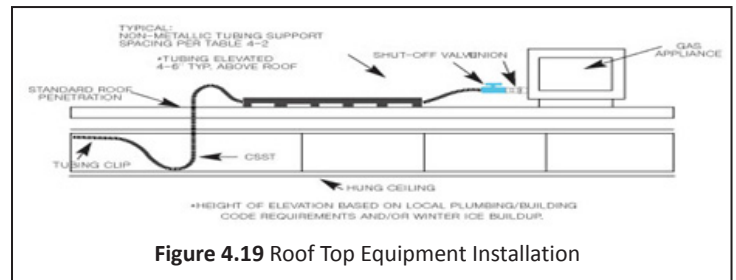

Figure 4.19 Roof Top Equipment Installation
A) Special mechanical protection of DooBon Flexible tubing is not required unless the tubing may be subject to physical damage in the location. DooBon Flexible tubing should penetrate the roof within 6 feet of the equipment location, whenever possible. Long runs of tubing on the roof should be supported with non-metallic blocks at the intervals specific in Table 4.2, and raised above the roof at the height dictated by local code. (Figure 4.19)